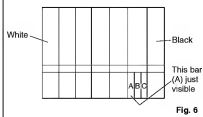

Fig. 6
2. Press MENU button. (Each time MENU button is pressed, display will change BRT, CNT, COL, TNT, and SHP in that order.) Select BRT and press [P+/P-] buttons so that the bar (A) in Fig. 6 is just visible.
As noted, these testing results indicate wire saturation for a very low number of users because NetBench creates a test environment that simulates network demand placed on a file server; every client reads the same data from a data file. The use of a synthetic network measuring program (NetBench) and the even distribution of work caused the low saturation point. Thus, this testing does not represent a typical LAN environment of several hundreds or thousands of users arbitrarily broadcasting over the entire LAN via router(s), bridge(s), and gateways. In a real-world environment, network clients should not reach wire saturation for so few users, as indicated in Table 3 and Figure 6. The table and graphical data show the wire bandwidth difference between 10 Mb/s and 100 Mb/s, as well as the effect of increasing the user load.